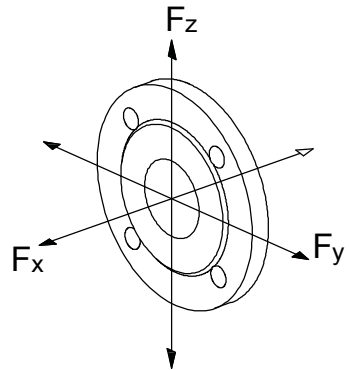

**Fig 3. Suction Head**
- The suction pipe should be definitely watertight and should not be arranged in a way to cause formation of air pockets. **Figure 3**